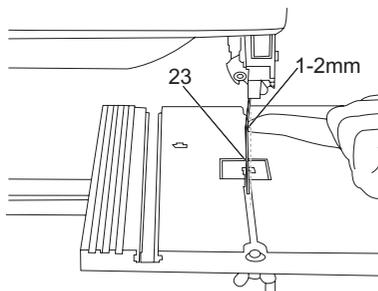

Fig. 12
- > The correct saw blade tension can be checked by applying pressure to the side of the band with your finger, carry out this check at a point roughly between the two band pulleys. You should only be able to bend the blade (23) very slightly (approx. 1-2 mm). (Fig. 12)